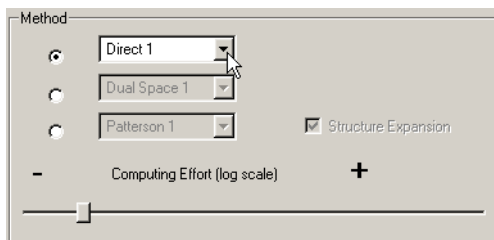

Figure 9.3 - Method box
- Click on the arrow to the right of Direct 1 in the Method box (see Figure 9.3). This gives three choices for structure solution using direct methods.